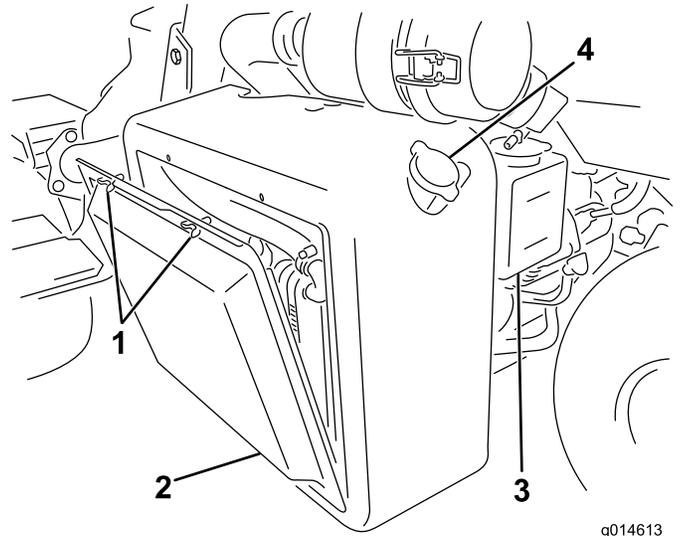

Figure 56
1. Remove the radiator screen (Figure 56).